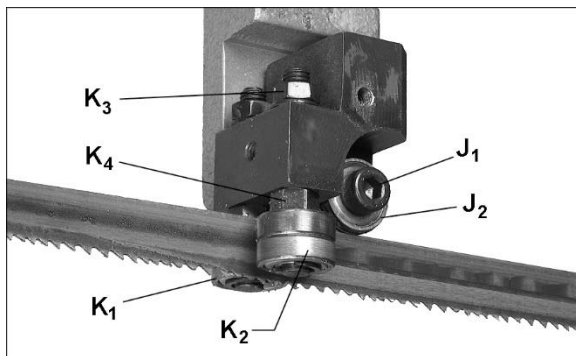

Figure 7-7: blade guide bearings
2. Loosen screw (J₁, Figure 7-7) and adjust back bearing (J₂) to approximately 0.002 to 0.003 inches from back edge of blade. Tighten screw (J₁).